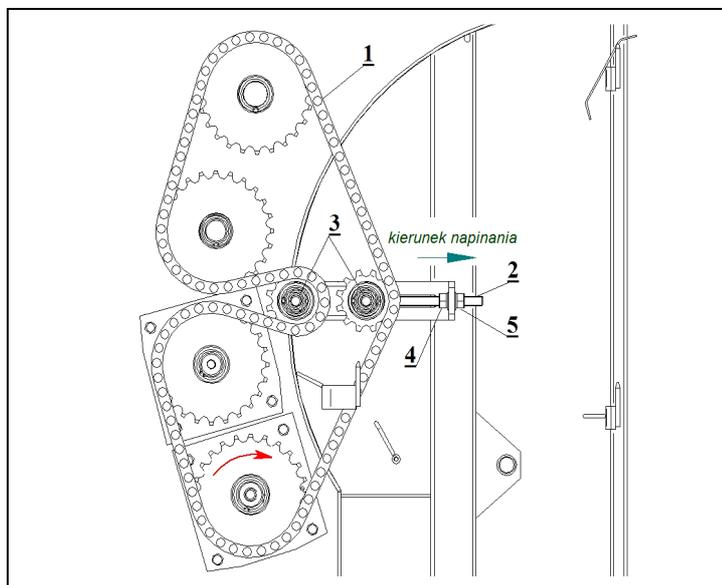

FIG. 52. ADJUSTMENT OF THE ROLLER DRIVE CHAIN
The roller drive (only in SIPMA PS 1221 FARMA PLUS) is located on the right side of the Machine). Adjustment of chain tensioning is executed using the passive tensioner via the nut (5) after loosening the nuts (3) and (4) (Fig. 52). After adjustment, the nuts need to be tightened again.